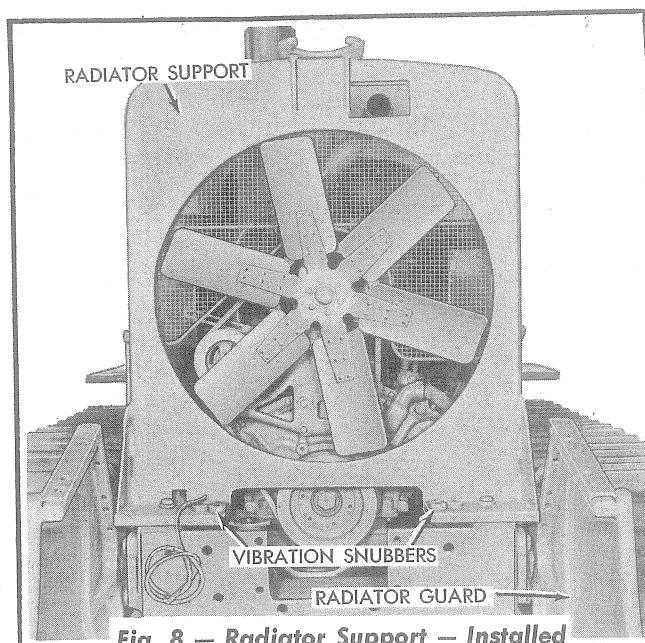

Fig. 8 — Radiator Support — Installed
2. Install the vibration snubbers in position on the lower corners of the radiator support as shown in Fig. 8.